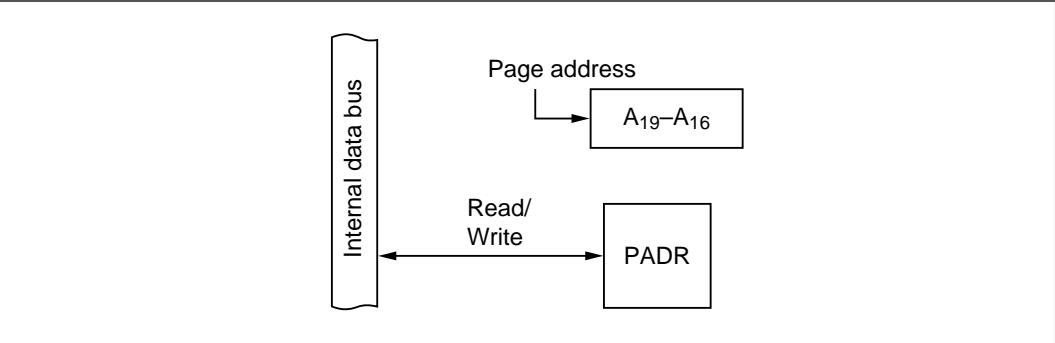

Figure 9-67 Page Address Bus (Modes 3 to 5)
(7) Page Address Bus (PA₃ to PA₀; Modes 3 to 5): Figure 9-67 shows a block diagram illustrating the page-address-bus function. Table 9-50 indicates register read/write data. When PA₃ to PA₀ are used for A₁₉ to A₁₆ output, values written in the port A data register (PADR) have no effect. When read, PADR returns the value written in PADR.